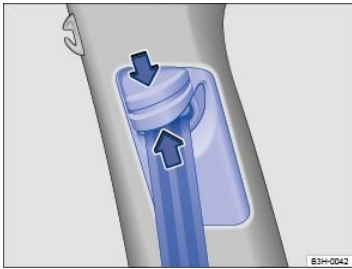

Fig. 33 Next to the front seats: Safety belt height adjuster.
- Pinch the safety belt attachment together as indicated by the arrows and hold ⇒ Fig. 33.